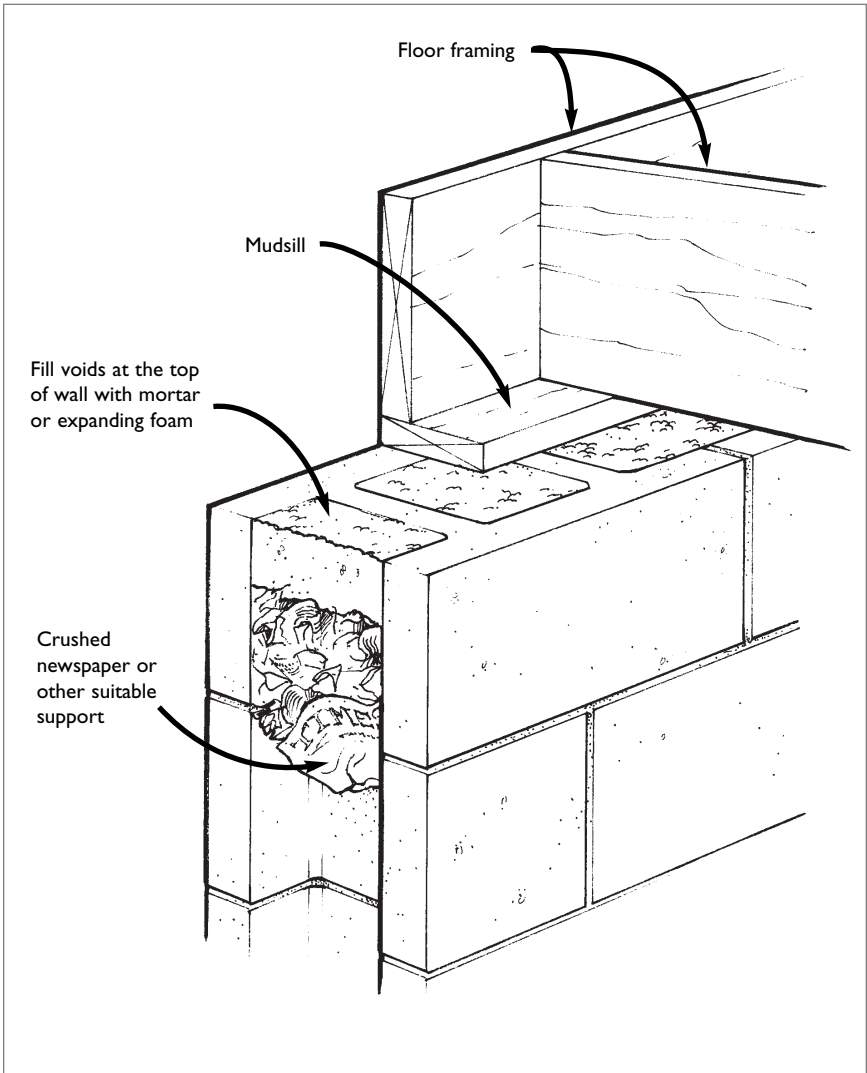

Figure 10: Sealing voids in the top of concrete block walls
- **Voids in concrete block walls** – If there isn't a solid row of block, seal voids in the top of foundation and interior load-bearing walls (*see* figure 10).